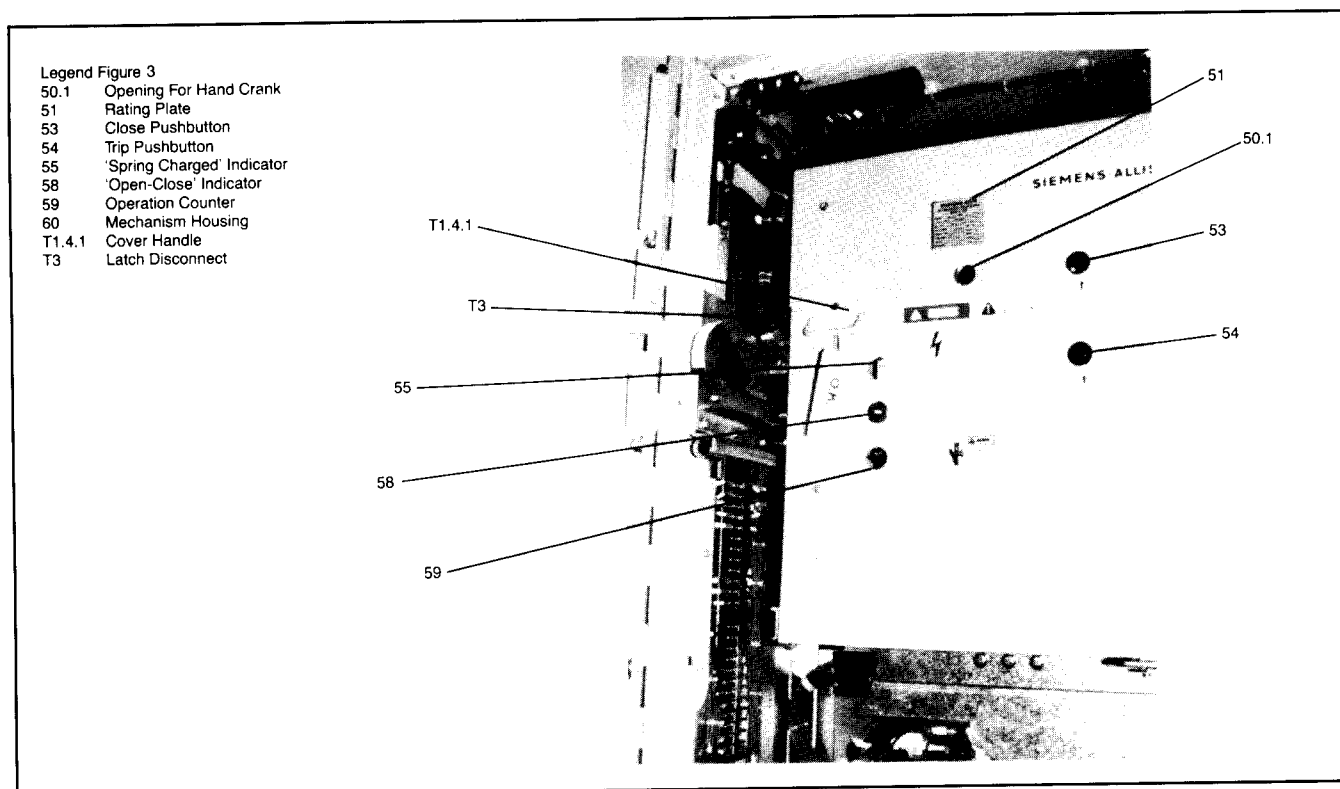

Figure 3. Typical Operator Housing
The interrupter/operator mechanism sub-assembly consists of the three breaker poles, each with its vacuum interrupter, mounted on the common motor or hand charged spring stored energy operating mechanism housing. This sub-assembly is shown in figures 3 & 4.
The construction characteristics of all vacuum circuit breakers can be seen in Figs. 3 thru 7. The circuit breaker poles are each fixed to the rear of the operating mechanism housing, (60), by two cast-resin insulators (16). The insulators also connect to the upper (20) and lower (40) pole supports which in turn support the ends of the vacuum interrupter (30). Where required by dielectric requirements, assemblies are fitted with phase barriers (80).